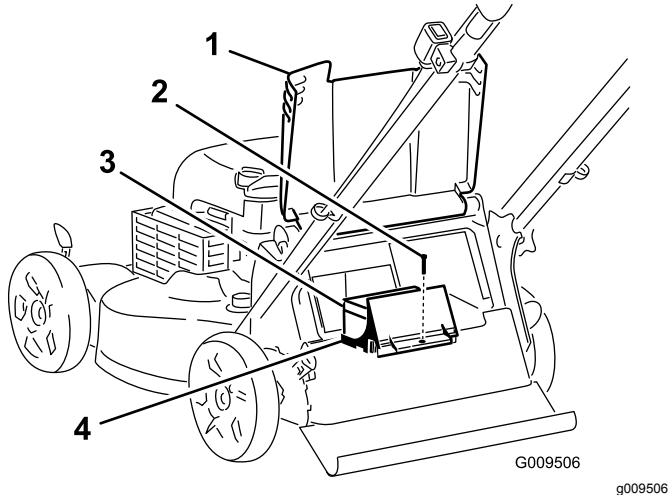

Figure 36
1. Raise the rear deflector and locate the battery compartment (Figure 36).